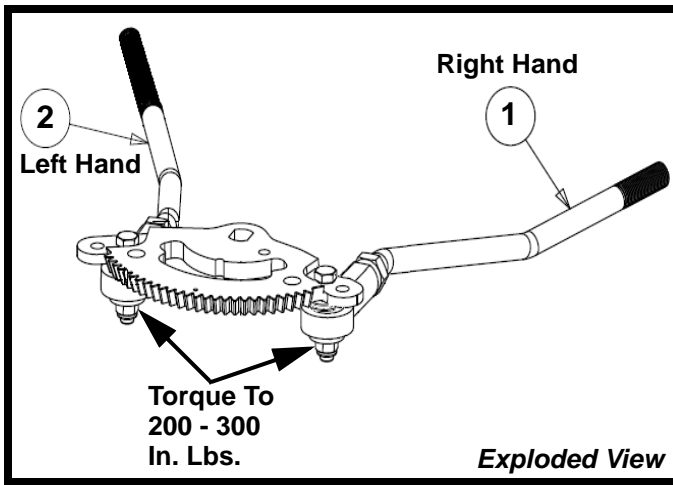

FIGURE 6
16. Torque item #10 (712-3061) 3/8-24 nylon lock hex nut on the left and right hand drag link assemblies to 200-300 in. lbs. See Figure 6.